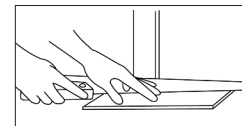

Figure 6
- Undercut door casings and jambs. Remove any existing base, shoe mold or doorway thresholds. These items can be replaced after installation. All door casings and jambs should be undercut to avoid difficult scircle cuts (Figure 6).